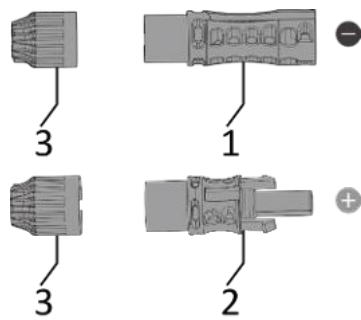

Fig. 36. Battery connection plug
1. Description of the individual parts of the battery connector [see Fig. 36]